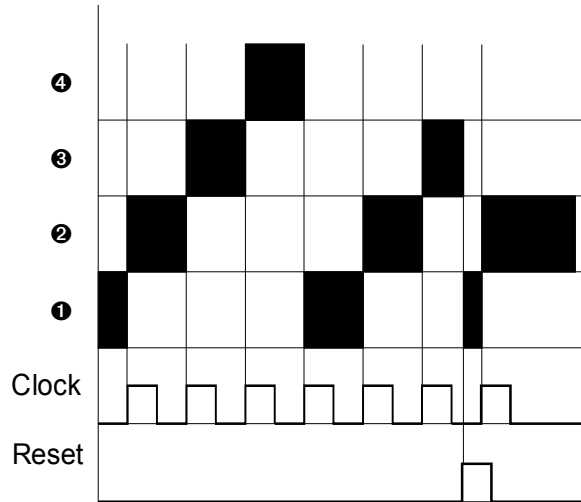

Fig. 1: How the A-151 switching works
Each time a pulse is received at the trigger input socket, the common out / input is connected to the next in / output. After the fourth in / output, the next trigger makes it step back to the first again, and so on (see Fig. 1).
A positive pulse at the **reset input** switches the out / input immediately back to the first in / output (see Fig. 1).
After stepping to the fourth in / output the next trigger pulse sends the common out / input back to the first in / output again (see Fig. 1).
If you want to over-ride the stepping sequence, and send the common out /input back to the first in / output, send a reset pulse to the **reset input ②** (see Fig. 1). The rising edge of this pulse immediately resets the common out / input to the first in / output.
Socket ④ is the **common out /input**. Each time the A-100 is switched on, or a reset pulse is received, this socket is connected to the first in / output socket ④ (see Fig. 1).